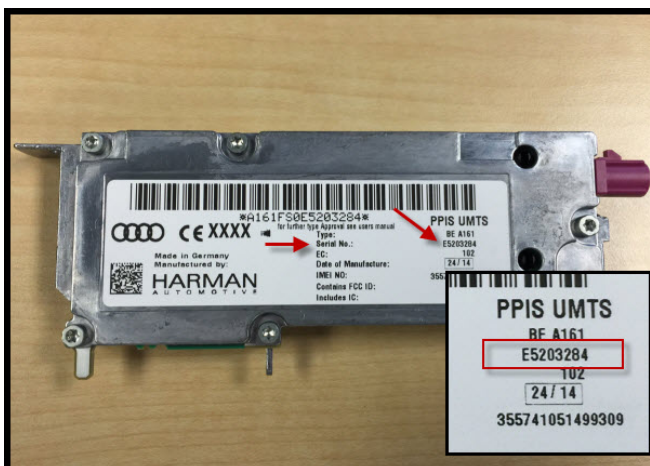

Figure 14. Serial number of the PPIS UMTS telephone module indicated by the red arrows and red box.
12. Before proceeding, write down the serial number of the new replacement UMTS telephone module (Figure 14).